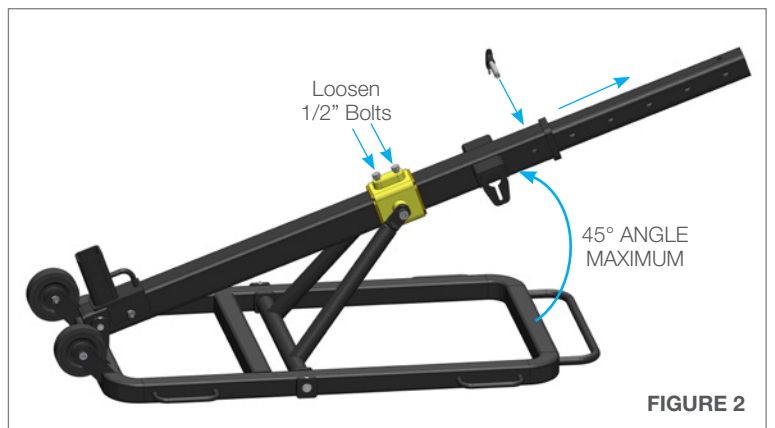

FIGURE 2
2. Loosen the two 1/2" Bolts and raise the Boom arm into the position that best suites the application. Secure the two bolts, remove the Quick Release Pin from the Inner Boom arm and slide the Inner Boom arm out to the position that best suites the application. **(Figure 2)**